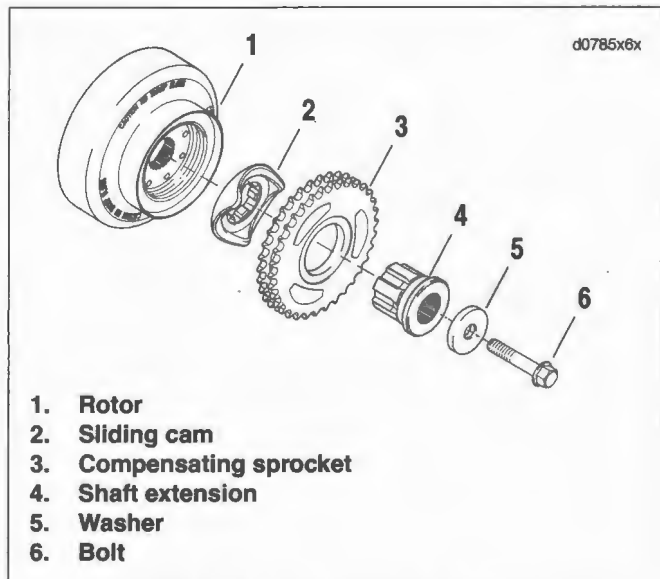

Figure 6-16. Compensating Sprocket
8. See Figure 6-16. Remove bolt (6) and washer (5).
1. See Figure 6-16. Apply a thin layer of primary chaincase oil, to the inner diameter of the compensating sprocket (3) and splines of the shaft extension (4). Assemble shaft extension, compensating sprocket and sliding cam (2). Place primary chain over compensating sprocket assembly.
3. If reusing bolt (6), remove thread locking material from bolt and engine sprocket shaft. Clean and prime threads of bolt and sprocket shaft. Apply two drops of LOCTITE THREADLOCKER 262 (red) to the threads of bolt. Install bolt and washer (5) hand tight.